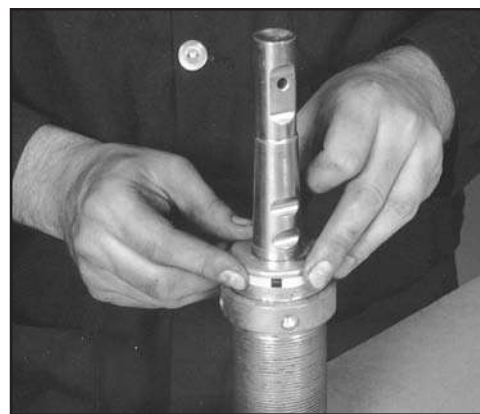

FIG. 29: INSTALL CONE SEAL
10. Install the split cone seal on top of the o-ring(s) and press into the groove (see Fig. 29).